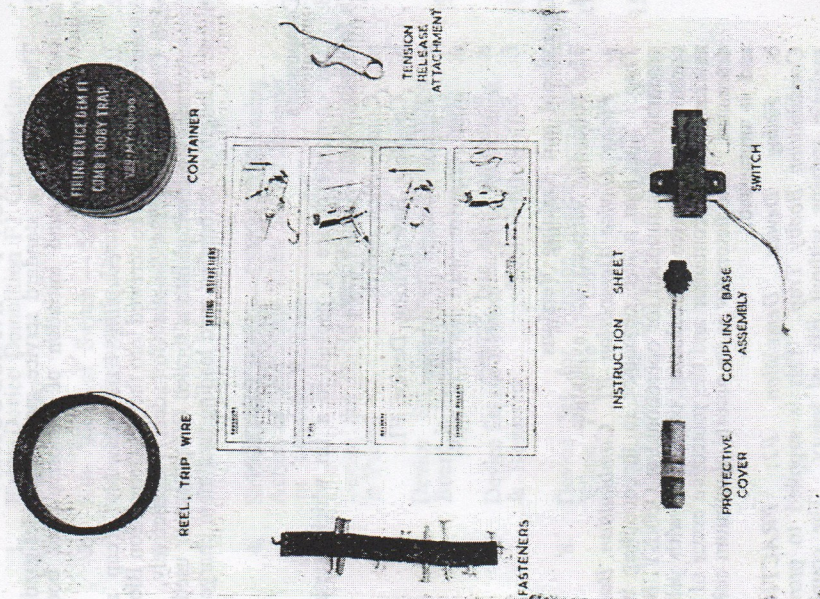

Figure 1
- a. Acquaint all arms with the Firing Device Demolition F1, Combination Booby Trap (See Figure 1).
3. The complete device is packed in a tin which contains the following items (See Figure 1):